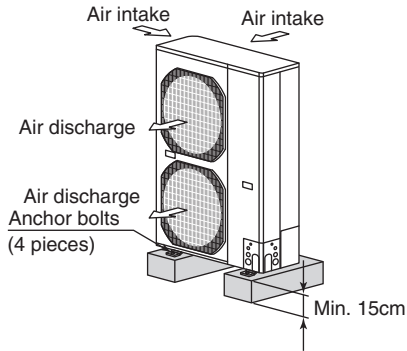

Fig. 2-5
- Provide a solid base (concrete block, 10 × 40 cm beams or equal), a minimum of 15 cm above ground level to reduce humidity and protect the unit against possible water damage and decreased service life. (Fig. 2-5)